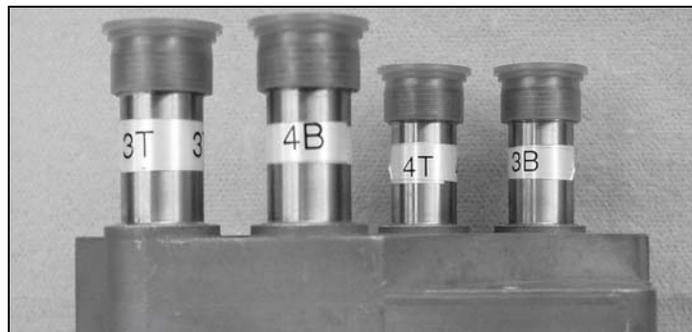

Figure 71-43 Ignition Lead Wire Connections to ECUs
3. Connect each high voltage harness lead wire to the appropriate ECU spark tower. Each spark tower is identified with a two-digit code of the same format as the ignition lead wire ID tags (Figure 71-43).